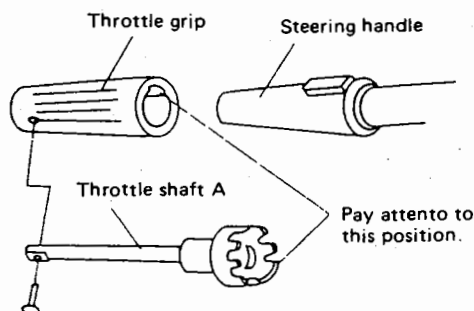

Fig. 87 Assembling the throttle shaft A
- 2) The method of fitting throttle shaft A and the throttle grip is shown in the Fig. 87.